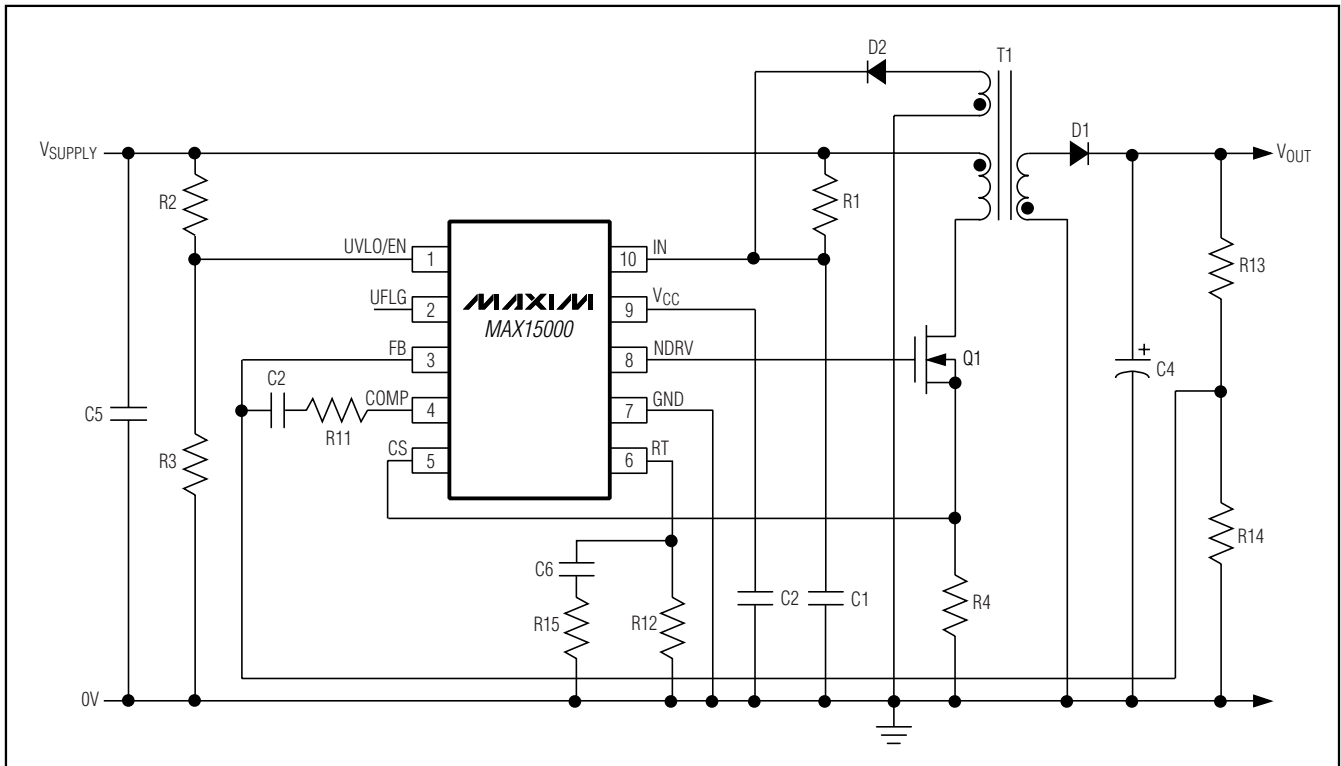
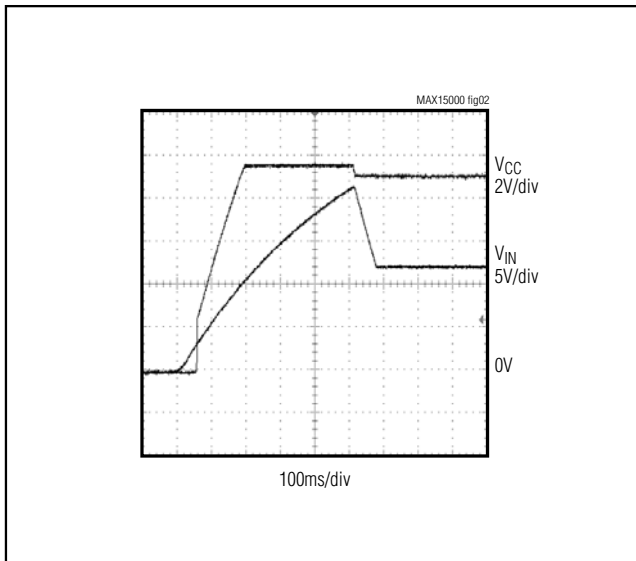

Figure 1. Nonisolated Power Supply with Programmable Input-Supply Start Voltage
Figure 2.  $V_{IN}$  and  $V_{CC}$  During Startup When Using the MAX15000 in Bootstrapped Mode (Figure 1)
- Note 2:** The MAX15000 is intended for use in universal input power supplies. The internal clamp circuit at IN is used to prevent the bootstrap capacitor (C1 in Figure 1) from charging to a voltage beyond the absolute maximum rating of the device when UVLO/EN is low (shutdown mode). Externally limit the maximum current to IN (hence to clamp) to 2mA maximum when UVLO/EN is low. Clamp currents higher than 2mA may result in a clamp voltage higher than 30V, thus exceeding the absolute maximum rating for IN. For the MAX15001, do not exceed the 24V maximum operating voltage of the device.
*Characteristics* table). The input is clamped when the devices are started with a bleed resistor (R1 in Figure 1) from a high input voltage and the UVLO/EN input is low. The clamp can safely sink up to 2mA current.
Power supplies designed with the MAX15000 use a high-value startup resistor R1 that charges a reservoir capacitor C1 (see Figure 1). During this initial period, while the voltage is less than the internal bootstrap UVLO threshold, the device typically consumes only 50µA of quiescent current. This low startup current and the large bootstrap UVLO hysteresis help to minimize the power dissipation across R1 even at the high end of the universal AC input voltage (265VAC).
Use this UVLO/EN input to program the input-supply start voltage. For example, a reasonable start voltage for a 36V to 72V telecom range is usually 34V. Calculate the resistor-divider values, R2 and R3 (see Figure 1) by using the following formulas:
For the MAX15000, the voltage at IN is normally derived from a tertiary winding of the transformer. However, at startup there is no energy being delivered through the transformer, hence, a special bootstrap sequence is required. Figure 2 shows the voltages at IN and  $V_{CC}$  during startup. Initially, both  $V_{IN}$  and  $V_{CC}$  are 0V. After the line voltage is applied, C1 charges through the startup resistor, R1, to an intermediate voltage. At this point, the internal regulator begins charging C2 (see Figure 1). Only 50 $\mu$ A of the current supplied through R1 is used by the MAX15000, the remaining input current charges C1 and C2. The charging of C2 stops when the  $V_{CC}$  voltage reaches approximately 9.5V, while the voltage across C1 continues rising until it reaches the wake-up level of 21.6V. Once  $V_{IN}$  exceeds the bootstrap UVLO threshold, NDRV begins switching the MOSFET and transfers energy to the secondary and tertiary outputs. If the voltage on the tertiary output builds to higher than 9.74V (the bootstrap UVLO lower
The MAX15000A/MAX15001A and MAX15000B/MAX15001B have programmable output switching frequencies from 25kHz to 625kHz and 12.5kHz to 625kHz, respectively. Use the following formulas to determine the appropriate value of the resistor  $R_{12}$  (see Figure 1) needed to generate the desired output switching frequency ( $f_{sw}$ ) at the NDRV output:
where  $R_{12}$  is the resistor connected from  $R_T$  to GND (see Figure 1).
Connect an RC network in parallel with  $R_{12}$  as shown in Figure 1. The RC network should consist of a 100nF capacitor  $C_6$  (for stability) in series with resistor  $R_{15}$  which serves to further minimize jitter. Use the following formula to determine the value of  $R_{15}$ :
The MAX15000/MAX15001 include an internal error amplifier to regulate the output voltage in the case of a nonisolated power supply (see Figure 1). For the circuit in Figure 1, calculate the output voltage using the following equation:
The current-sense resistor (R4 in Figure 1), connected between the source of the MOSFET and ground, sets the current limit. The current-limit comparator has a voltage trip level ( $V_{CS}$ ) of 1V. Use the following equation to calculate the value of R4:
The bypass capacitor at IN, C1, supplies current immediately after the MAX15000 wakes up (see Figure 1). The size of C1 and the connection configuration of the tertiary winding determine the number of cycles available for startup. Large values of C1 increase the start-up time but also supply gate charge for more cycles during initial startup. If the value of C1 is too small,  $V_{IN}$  drops below 9.74V because NDRV does not have enough time to switch and build up sufficient voltage across the tertiary output which powers the device. The device goes back into UVLO and does not start. Use a low-leakage capacitor for C1 and C2.
The above startup method is applicable to a circuit similar to the one shown in Figure 1. In this circuit, the tertiary winding has the same phase as the output windings. Thus, the voltage on the tertiary winding at any given time is proportional to the output voltage and goes through the same soft-start period as the output voltage. The minimum discharge time of C1 from 21.6V to 9.74V must be greater than the soft-start time of 5.6ms.